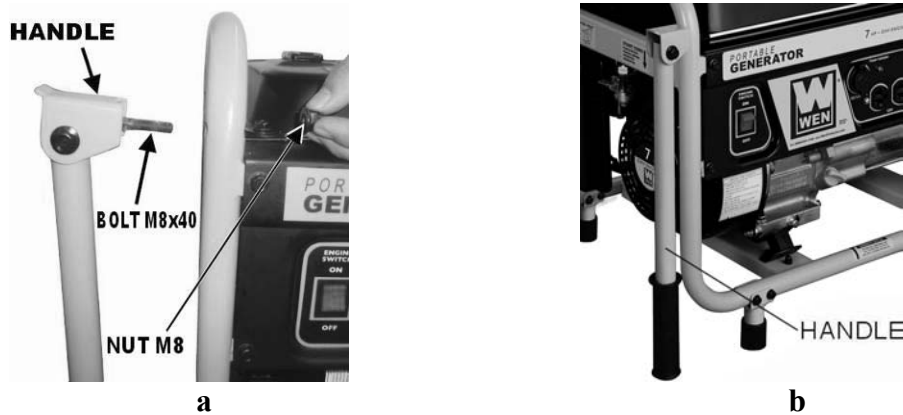

Figure 3- handle assembly
1. Place one handle onto the upper portion of the generator frame as shown in figure 3.